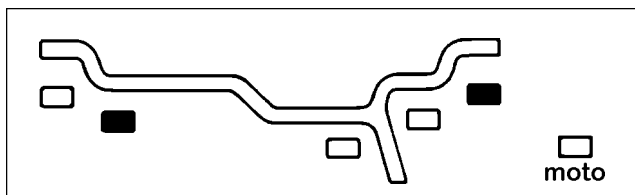

Fig.49
**C. ALU2.** The wheel weights position is as indicated in Fig.49. In this case use one tape weight on the inside and a clip-on weight on the outer edge.